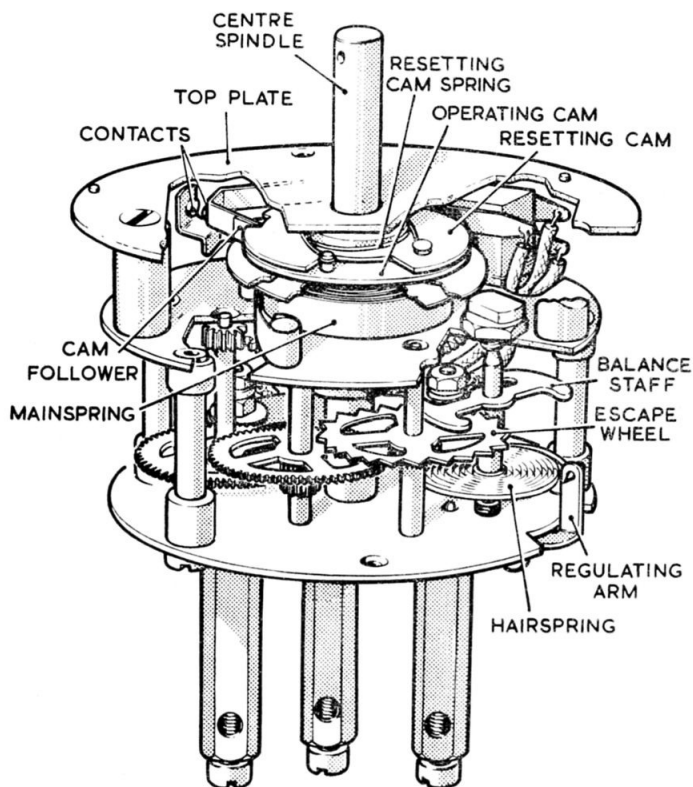

Fig. 2. Cutaway view of mechanism
2. A cutaway drawing of the switch is shown in fig. 2. The mechanism is contained in a black plastic case, with a dial marked with white lines at the OFF and ON positions. As the operating pointer is turned to set the switch, this winds the mainspring and starts the clockwork mechanism.